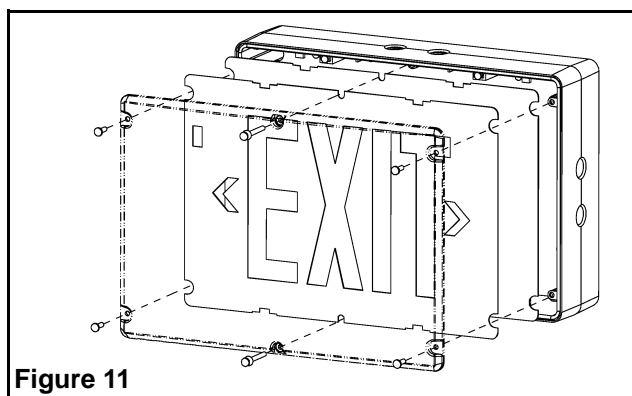

Figure 11
6. Install the lens by using the 4 short and 2 long tamper-proof screws (see fig.11).